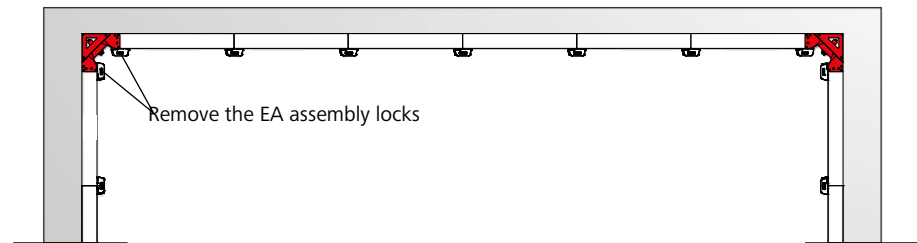

Fig. 31.1
1. Remove the EA assembly locks connecting the stripping corners to the panels (Fig. 31.1).